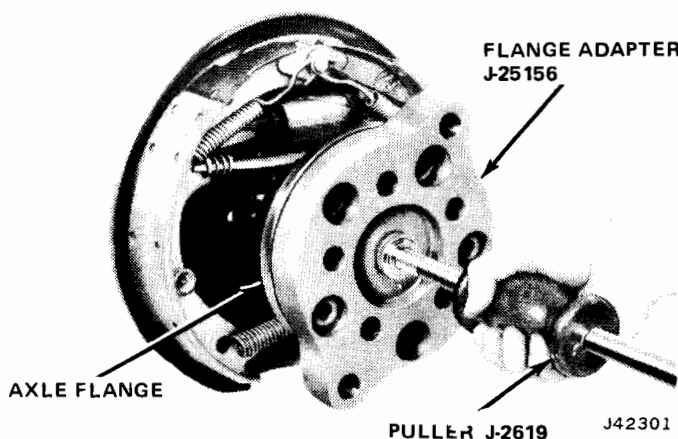

Fig. 10-23 Removing Flanged Axle Shaft
(5) Attach Axle Shaft Adapter Tool J-25156, and Slide Hammer Handle J-2619 to axle shaft flange and remove axle shaft (fig. 10-23).